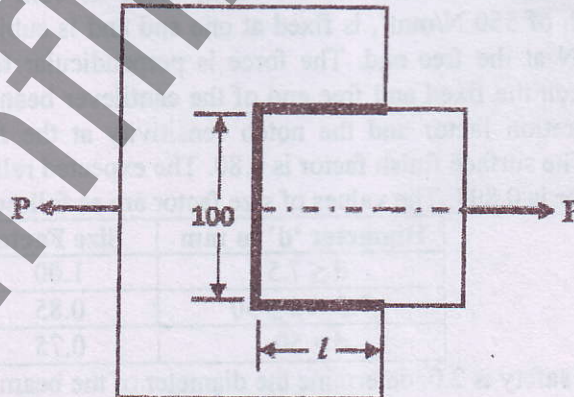

Fig. 1
- (c) A steel plate, 100 mm wide and 10 mm thick, is joined with another steel plate by means of a single transverse and double parallel fillet welds as shown in Fig. 1. The strength of the welded joint should be equal to the strength of the plates to be joined. The permissible tensile and shear stresses for the weld material and the plate are  $70 \text{ N/mm}^2$  and  $50 \text{ N/mm}^2$ , respectively. Find the length of each parallel fillet weld. Assume the tensile force acting on the plates as static. [4]